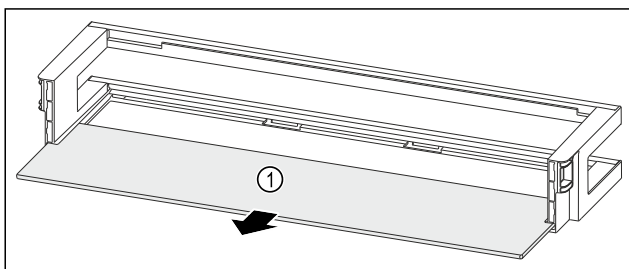

Fig. 212 Door rack with shelf
- ▶ Remove the shelf Fig. 212 (1).